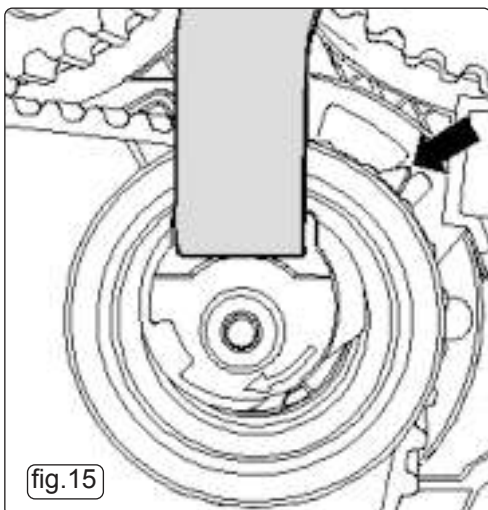

fig.15
- 5.8.4. The tensioner is turned **anticlockwise** using the Adjuster until the Tensioner Locking Pin can be removed and the tensioner is turned **clockwise** until a position is achieved where the pointer is aligned with the "notch" in the back plate (fig.15).